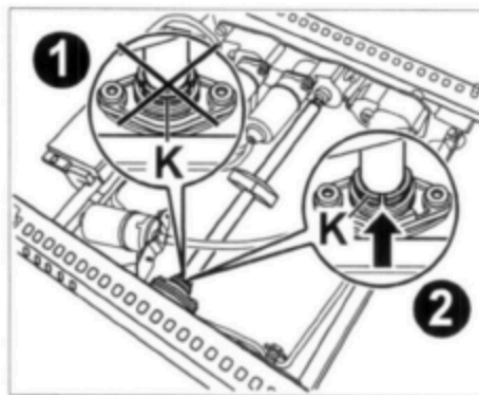

Figure 13
- 16 Move the seat rail **backwards** until the slit on the white plastic bushing (⇒ *Figure 13* -inset 1 and 2, item K-) is **easily accessible** (⇒ *Figure 13* -inset 2, arrow-).